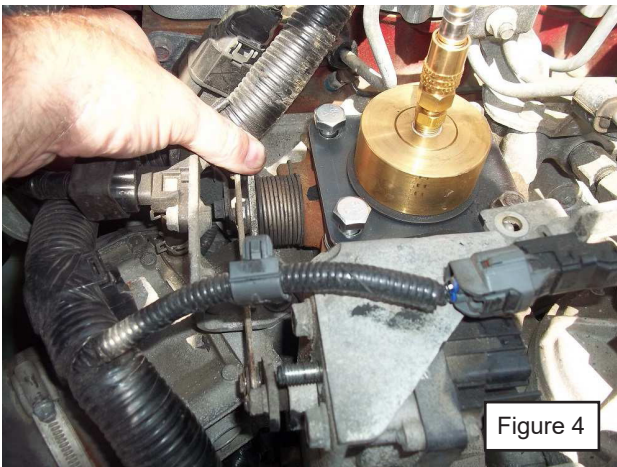
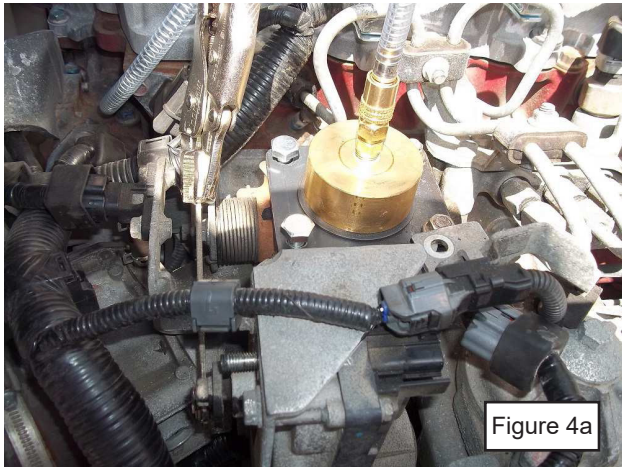

Figure 4
Figure 4a
7. Using your hand push the EGR valve linkage toward the engine this will open the EGR valve (see Figure 4). Using vice grips secure the EGR linkage to hold the EGR valve open, unplug the EGR electrical connection (see Figure 4a).